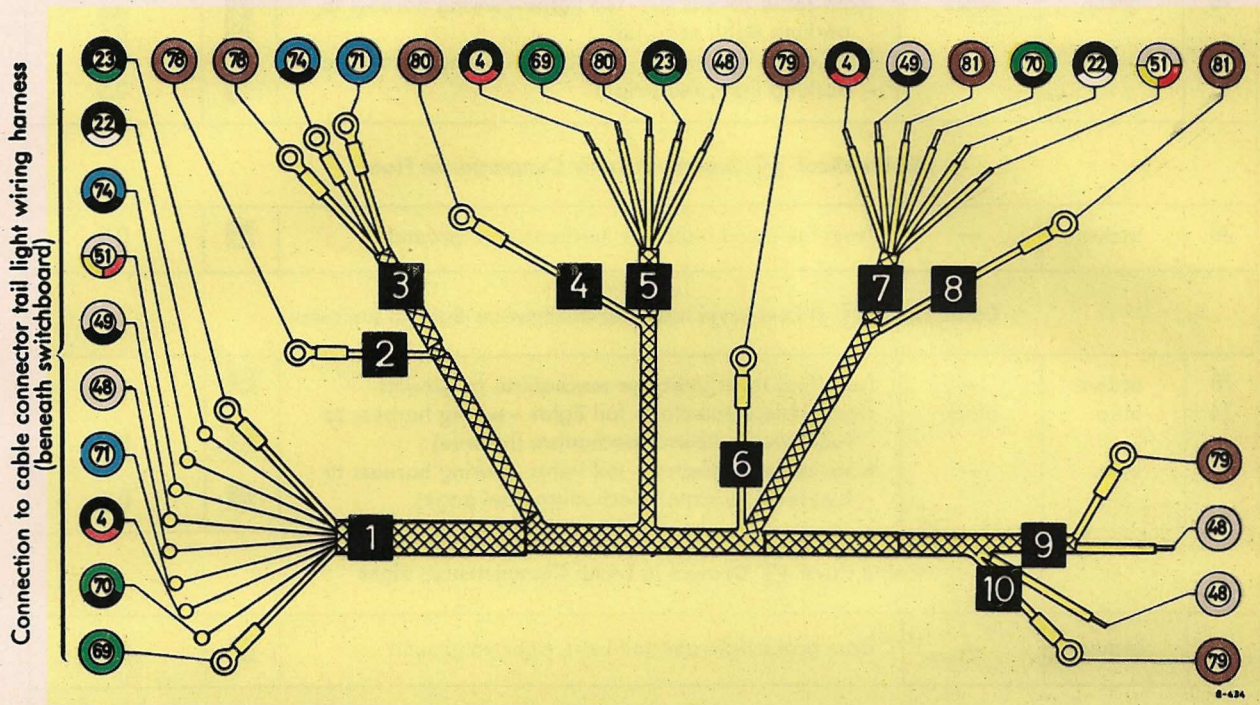

Fig. 54—2/1
Note: It is possible that changes may be made in the color coding system of the individual leads. In this case, the change can easily be seen from a study of the circuit diagram of the main wiring harness (see Fig. 54—1/1).
The cable sheaf and lead numbers shown in the following text all refer to Section A, Fig. 54—1/1.
- Remove both headlights and disconnect Leads Nos. 38, 43, 77 and 64 at headlight left, and Nos. 42, 76, 63 and 35 at headlight right (see Job No. 82—1, Section A). Pull back the Cable Sheaves **20** (left) and **22** (right) into the engine compartment (Fig. 54—1/2).
- Disconnect Cable Sheaf **26** with Leads Nos. 19 and 20 and Ground Lead No. 37 from Cable Sheaf **27** at cable connector (1) for the heater blower, left.
Disconnect Cable Sheaf **27** with Ground Leads Nos. 37, 38 and 40 at clip (5) and remove the clip (5) (Fig. 54—1/2).